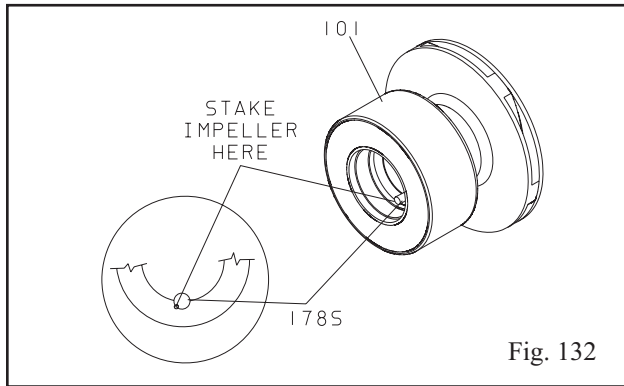

Fig. 132
1. Slide key (178S) into impeller (101). To hold key in place, stake impeller at end of key (Fig. 132). Use a center punch.